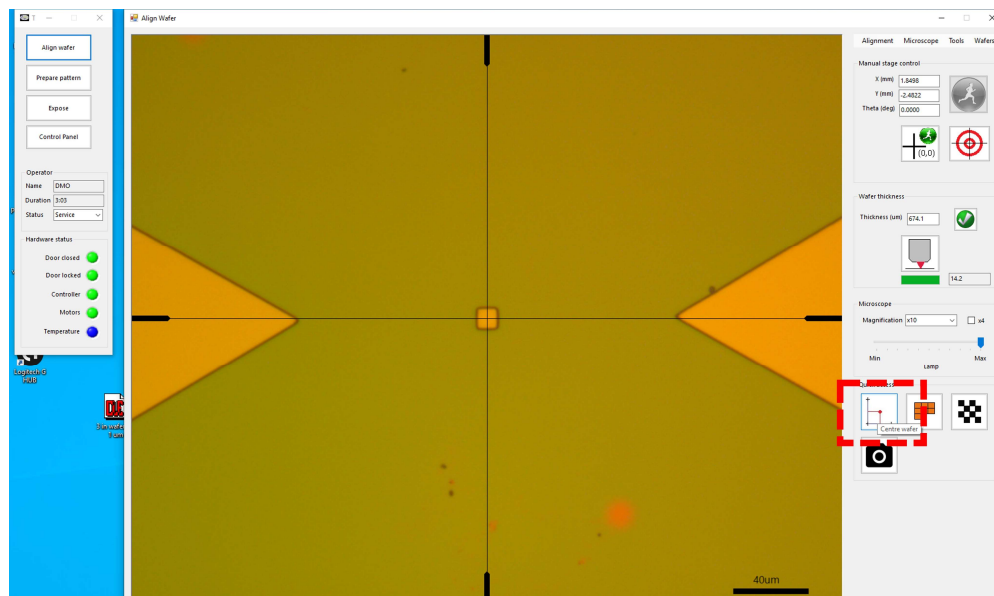

Figure 3 Centre wafer option in the "Quick access" section under the "Align wafer" form.
- Go to Centre wafer in the Quick access section (Figure 3).
- f. Go to the Centre wafer in the Quick access section (Figure 3).
- j. Go to Centre wafer in the Quick access section (Figure 3).